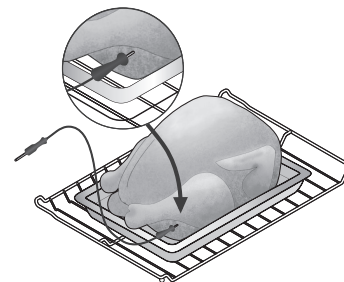

Figure 11: Probe in thickest part of thigh
- For whole poultry or turkey, fully insert the probe sensor into the thickest part of inner thigh, just below the leg (See Figure 11).